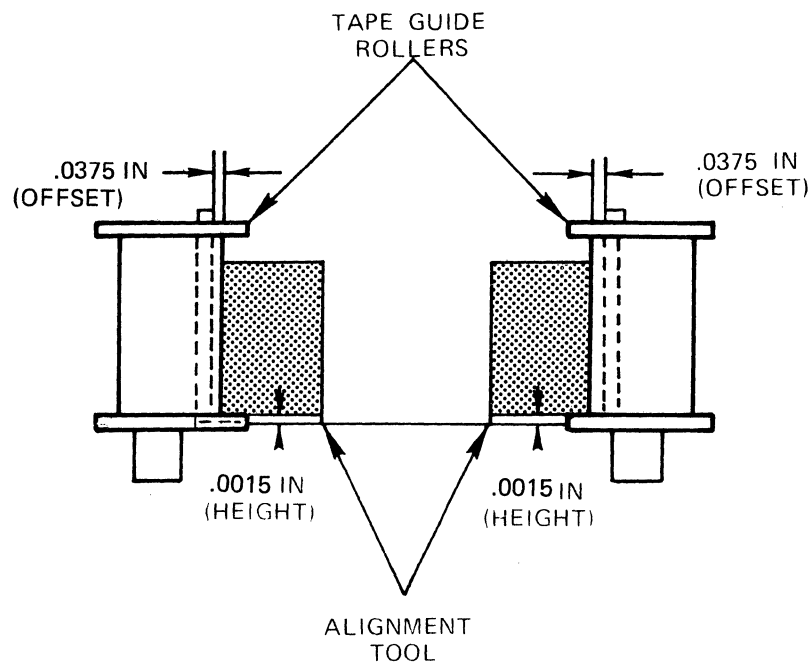

Figure 5-13. Tape Guide Roller Alignment Tool Positioning
- d. Position the alignment tool against each guide roller, one at a time. In each case, the alignment tool should line up as illustrated in figure 5-13. The .0015 edge of the tool is for height and the .0375 edge is for offset.